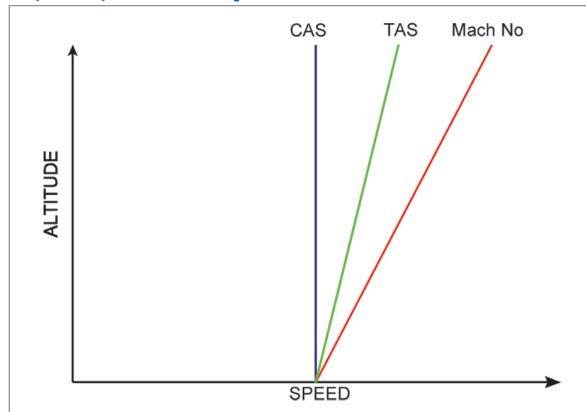
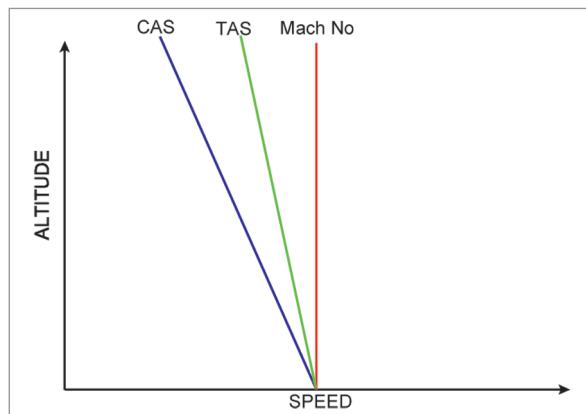

Figure 7.2
Figure 7.3
This is shown diagrammatically in Figure 7.2. For a constant CAS (blue line) as altitude increases, TAS (the green line) increases, and Mach number (the red line) increases at a greater rate. The navigation computer can also be used to show the relationship between CAS, TAS and Mach number but also gives us an idea of magnitude.
**Note:** You will have probably noticed by now that the relationship of CAS, TAS and Mach number as an aeroplane climbs or descends through the standard atmosphere remains the same. That is Figure 7.2. and Figure 7.3. are the same - just tilted to one side or the other. Therefore when considering the climb/descent through an isothermal layer and an inversion only the constant TAS figure will be shown.
During a descent in the ISA, the LSS will be increasing (as temperature increases). Therefore if Mach number is being kept constant the TAS must be increasing (Mach number = TAS/LSS). During the descent air density increases and if TAS is also increasing the CAS must also increase at a greater rate (Dynamic Pressure =  $\frac{1}{2} \rho V^2$ ). This is shown in Figure 7.3. Similarly in a climb at constant Mach number the TAS or CAS both reduce.